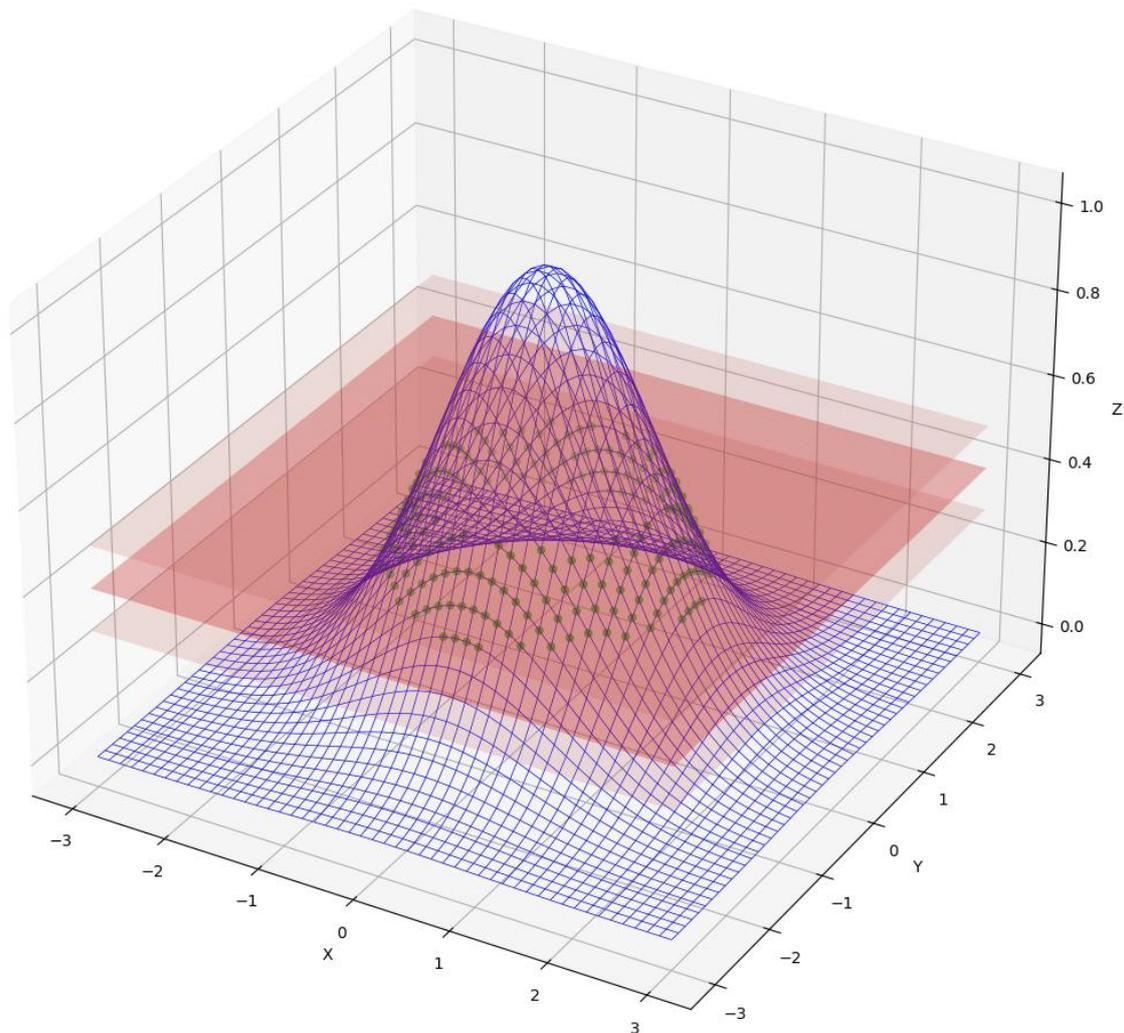

Figure 3 Intensity planes and highlighted input data for ellipse generation
The concept is shown in the Figure 3. The selection “Ellipse level” is represented by the darker plane, the amplitude tolerance is shown by the two lighter planes below and above the main amplitude level planes. All data points, which are in between the two lighter planes, are marked with a green circle. These are the points, which will be used for the ellipse generation. Ellipse height and width will be determined and displayed. The two main axes of the ellipse can be used as axis for the beam intersection. The ellipse height and width depends of course strongly on the set limits for amplitude level and tolerance, therefore these values can be used only as a rough estimate, but do not represent any ISO conform value. If 50% for the amplitude level is selected, ellipse height and width are equal to the half power beam width (**HPBW**).
Ellipse level (4): Ellipse level allows to set the middle virtual intensity plane (darker color in Figure 3), either based on the data of the whole image or the selected AOI, if any. The ellipse level can be determined in 10 % steps, ranging from 10 to 90 % between zero and the maximum intensity in the image/AOI. It is also possible to type into the box. Ellipse levels >99 % and <1 % are not allowed, signified by red font color. Refer to Ellipse Calculation and the subsequent explanation for more information regarding the ellipse calculation.